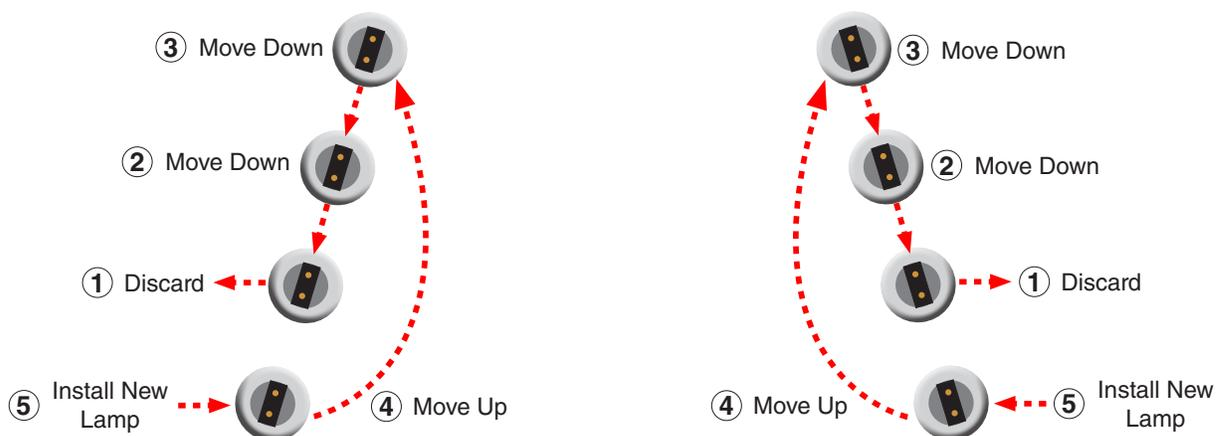

Figure 16.1: Schematic end view of installed lamps showing rotation steps.
- This system consists of discarding the oldest lamp on the QUV front and rear after every 400 hours of lamp operation and moving the remaining lamps stepwise as shown in (Figure 16.1).